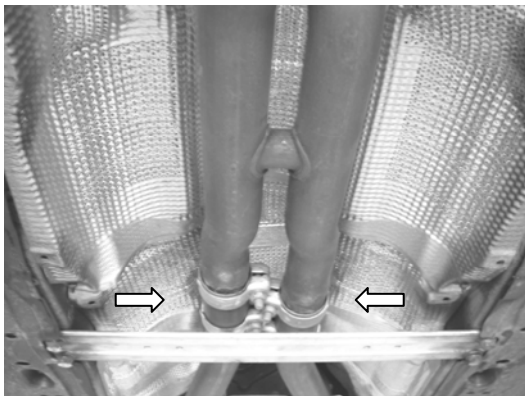

Figure 1
1. Loosen the clamps shown in figure 1 located behind the catalytic converters.